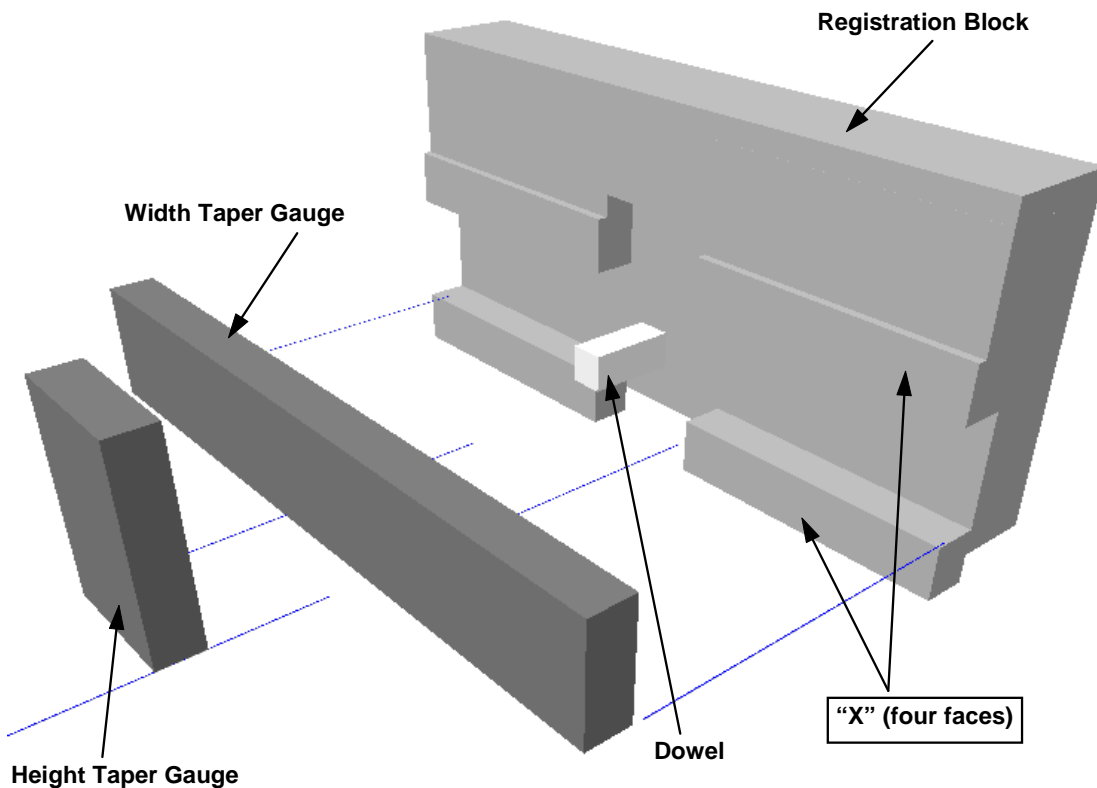

Figure 3: I/O Window Gauge Detail
The board gauge includes an I/O window gauge for measuring the precise width and height of the chassis I/O window as well as the window's horizontal and vertical position (as defined in both specifications). Figure 3 shows the main components of the I/O window gauge:
The registration block is attached to the baseboard and is located precisely against the registration edges on the baseboard. The block has a Delrin† locating dowel fixed into it (Figure 3). You can use the dowel along with the taper gauges to check the precise position of the I/O window.
2. Check the relationship between the motherboard mounting position and the chassis back panel. The metalwork immediately surrounding the I/O window should be *just* in contact with the protruding parts of the registration block (marked “X” in Figure 3).
**Motherboard too far?** If the clearance between the protruding sections of the registration block (X in Figure 3) is too great ( $>0.01$  inch [ $0.25\text{mm}$ ]), the motherboard mountings are positioned incorrectly, and the motherboard will be too far from the back panel.
The I/O window is surrounded by a 0.1 inch (2.54mm) keepout zone on both the inside and outside faces of the chassis back panel. The protruding sections (X in Figure 3) of the registration block are precisely 0.1 inch (2.54mm) bigger than the defined I/O window. This difference lets you make a visual inspection to check that no chassis feature impinges on the keepout margin around the I/O window.
1. Position a taper gauge with its center hole on the locating dowel in the registration block (Figure 3). It does not matter whether you start with the height or width taper gauge. Do the same steps for each one.